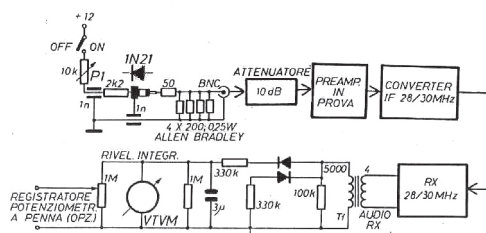

Figure 10 – Drawing CVS-5 – Diode Noise Generator Schematic Diagram
The electric circuit diagram of the diode noise generator is shown in Figure 10. It is comprised of an SPST switch (for Noise OFF and Noise ON), a 10 k Ω potentiometer P1 (use one with a shaft long enough to extend through the enclosure wall), a 1N21 or similar microwave diode, two feed-through 1 nF capacitors, one 2k2 ¼ watt resistor, one 50 Ω non-inductive carbon resistor, and four 200 Ω non-inductive carbon resistors (all from Allen-Bradley). Spirally-wound carbon resistors which are inductive should not be used.
As shown in Figure 10, the output of the noise generator must be connected to a fixed 10dB attenuator. This is because the return loss of the input of a GaAsFET preamplifier is very small (on the order of only 2 dB or less) so that the input VSWR is very high (about 9:1). However, while tuning C1 and C2 for the minimum noise figure, the VSWR must be reduced. Including the aforementioned 10 dB attenuator will likely increase the return loss to more than 20 dB (i. e., 10 dB for the incident noise plus 10 dB for the reflected noise).
As shown in Figure 10, the output of the attenuator must be connected to the input of a 70 cm down-converter with an IF from 28-30 MHz. The output of the down-converter must be connected to the input of an HF receiver tuned to about the middle of the 28 MHz band.
The loudspeaker audio output of the HF receiver should be connected to a leftover junk box output transformer of the type used in older radios with the audio final tube similar to a 6V6 according to Figure 10.
The secondary of this transformer T1 has an impedance on the order of 4 Ω and must be connected to the HF receiver loudspeaker output. To increase the voltage, the primary of T1 (which has an impedance on the order of 5 k Ω) must be connected to the rest of circuit shown in drawing Figure 10. The rectified voltage is measured with a high-impedance 5 volt full-scale DC voltmeter.
Connect a 12 volt power supply, the noise generator, the preamplifier, the down-converter, and the HF receiver as shown in Figure 10. Temporarily connect a headphone to the receiver and turn the noise generator potentiometer P1 to the minimum resistance. If everything is all right, the noise into the headphone must change significantly while turning P1.
5. Connect the high-impedance 5 volt (full-scale) DC voltmeter as shown in Figure 10.